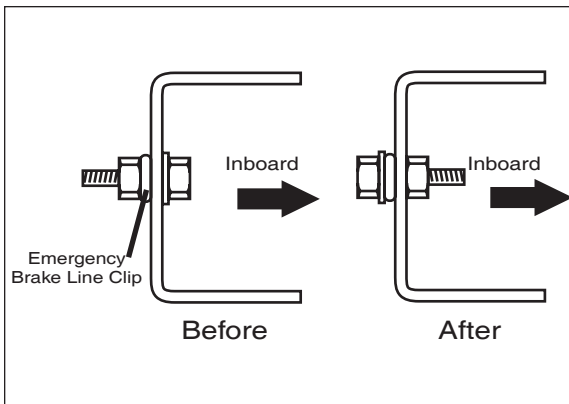

Figure 5
1. For 1999 and later Super Duty F-250 and F-350 trucks, remove the bolt holding the emergency brake cable to the outside of the frame rail. Reinstall the bolt in the reverse order, with the nut on the inside of the frame rail to prevent rubbing against the air spring (Figure 5).